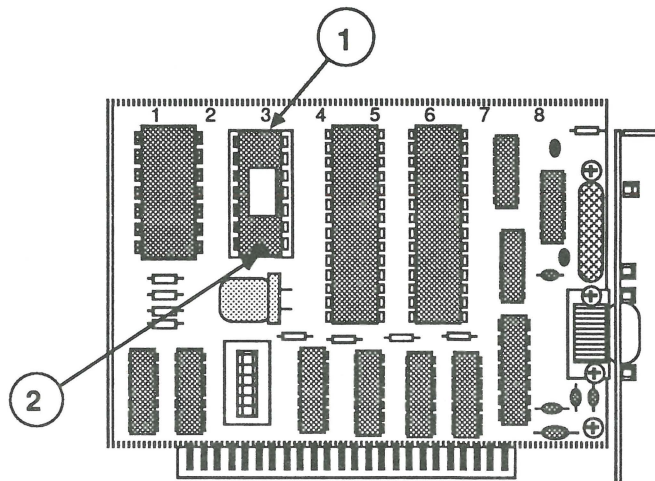

FIGURE 1
1. Locate in column 3 on the LocalTalk PC Card the ROM with part number 342-0007-A or -B (Figure 1, #1).
3. Position the new ROM with part number 342-0007-C (or higher) on the socket. Be sure that the notch (Figure 1, #2) on the ROM is facing toward the center of the card. Press the ROM firmly into the socket.